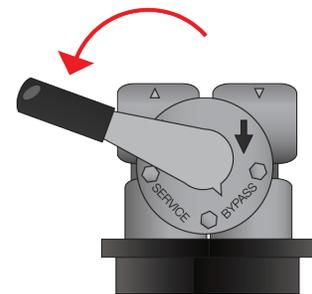

Figure 7 - Filter valve IN BYPASS position
3. The filter tank comes with a bypass valve included. Arrows on top of the bypass valve indicate the incoming and outgoing water flow [Page 13, Figure 7].
BEFORE TURNING ON THE MAIN WATER LINE - ensure the carbon filter's built-in bypass lever is still in the **BYPASS** position [See Page 13, Figure 7]. Plug the system into 110 volt; or, if using the 24 volt, use the supplied 24 volt transformer.